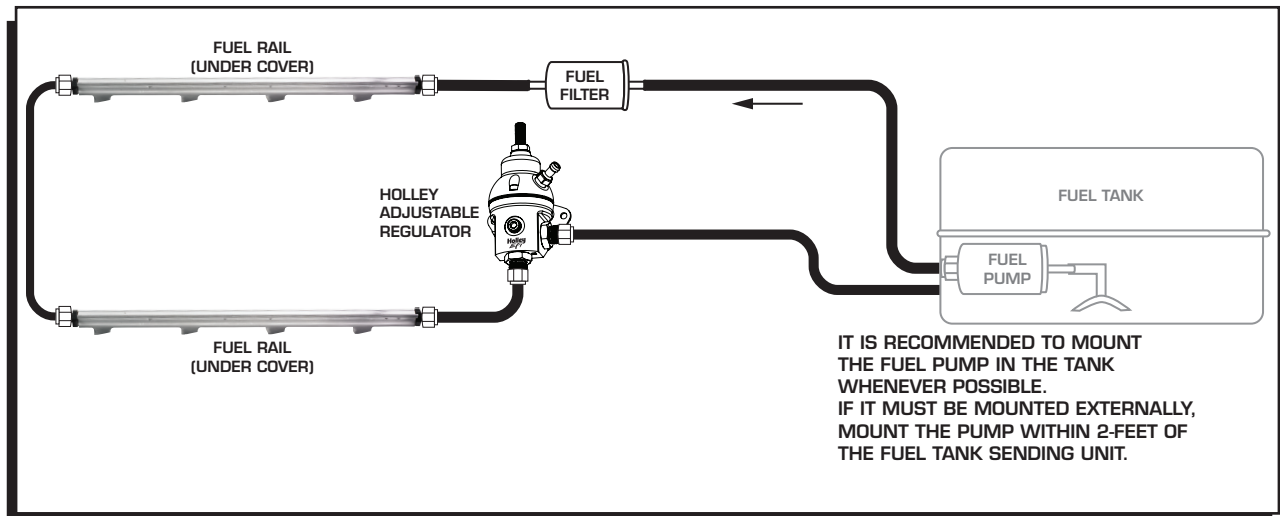
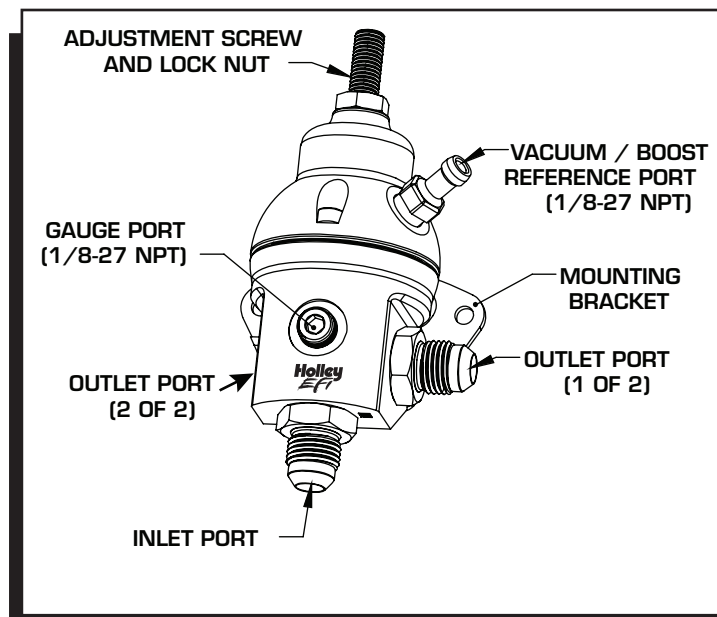

Figure 3 EFI Return Fuel System.
Figure 5 Regulator Feature Identification Guide
When installing the kit in conjunction with an EFI return system, refer to Figure 3. There are two possible connection points (one at the rear of each fuel rail assembly). One rail will be connected to the fuel supply in an operational system. DO NOT "tee" into the supply line and leave the opposing fuel rail plugged or capped (Figure 5). Fuel from the opposing rail should be routed to the regulator inlet port (using the supplied hose and fittings). The hose length between the rail and regulator is not critical, but should be kept to a minimum.
The regulator inlet port is located on the bottom surface, and clearly marked with an identifier machined in the housing (see Figure 5). Two (2) outlet ports are available, but typically only one (1) will be used. Install a 6AN port plug in the unused outlet port using a 5/16-inch hex key (Allen wrench). The -6AN straight port fittings should be snugged with an 11/16-inch wrench or deep socket.
Install the supplied 1/8-27 NPT brass hose barb fitting in the upper regulator housing (see Figure 5) using a 7/16-inch wrench or deep socket. Thread sealer is not required on this fitting, but can be used if desired. Connect an intake manifold vacuum / boost source to this fitting, or leave it open to the atmosphere if manifold pressure compensation is not required. DO NOT plug this opening. Ensure that contaminants (such as water and road spray) cannot enter the open fitting. In the event that vacuum / boost reference is